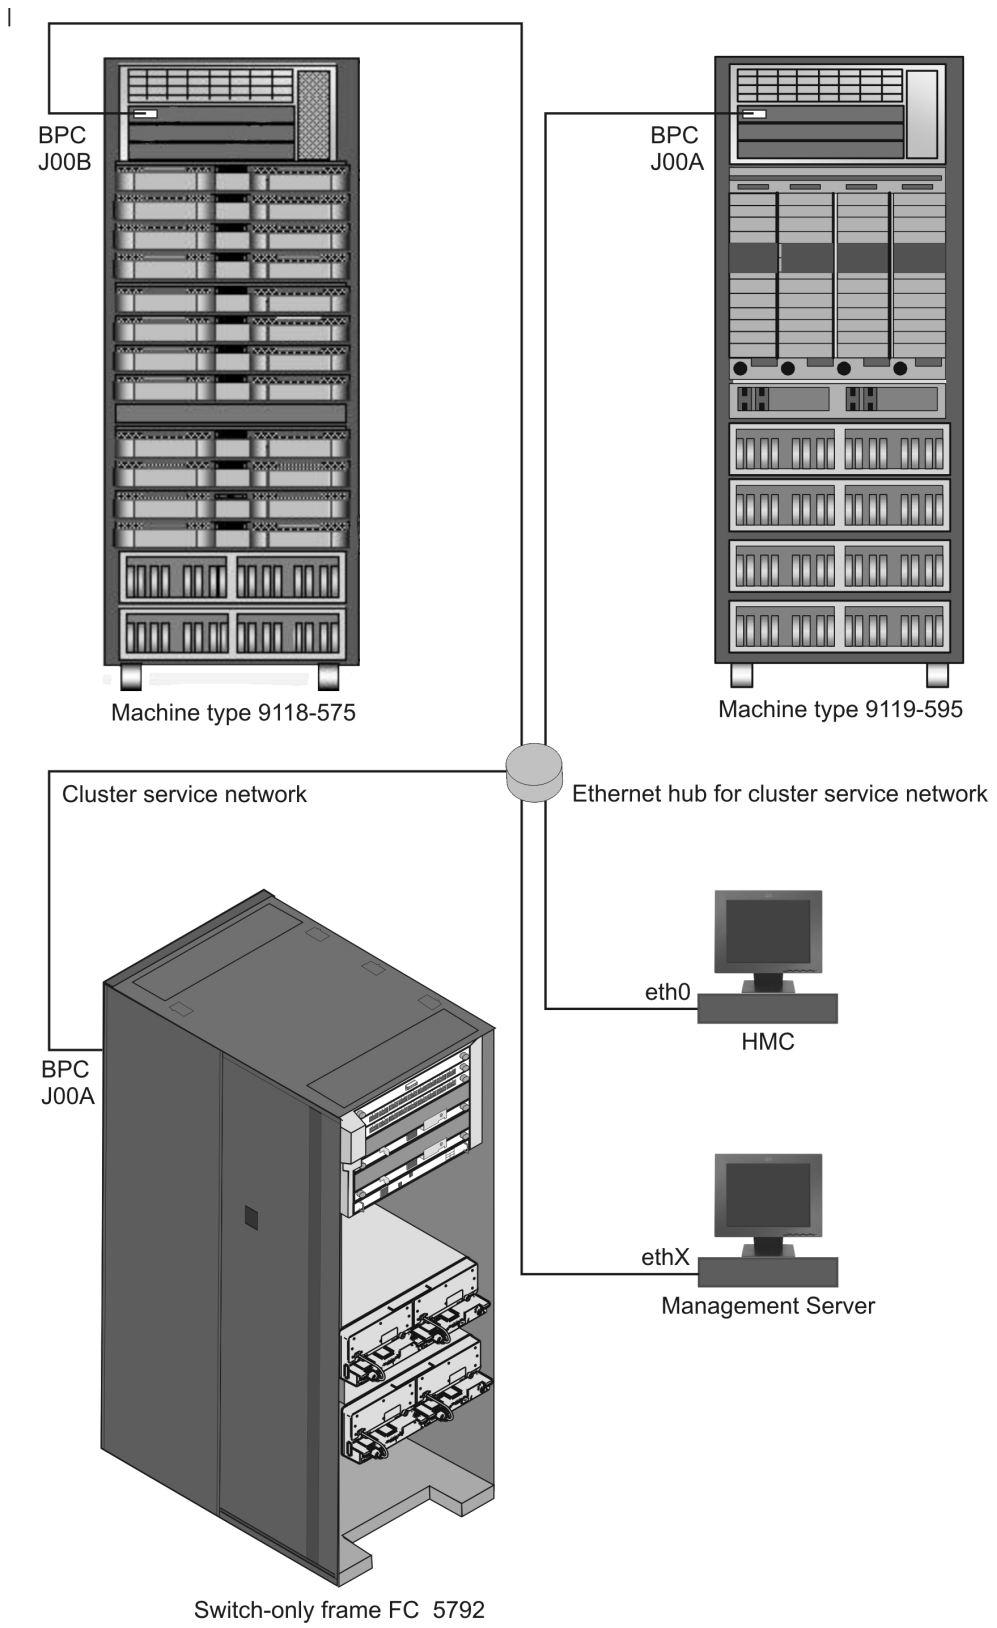

Figure 8. Overview of the cluster service network layout
- Figure 8 on page 32 provides a high-level view of a simple cluster service network